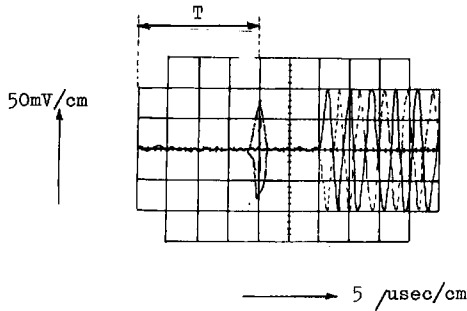

Fig 7-22
17) When steps 14 and 16 have a different value, take the average deviation, in such a way that $T = 20, 0 \mu\text{sec} \pm 3 \mu\text{sec}$, see fig. 7-22.